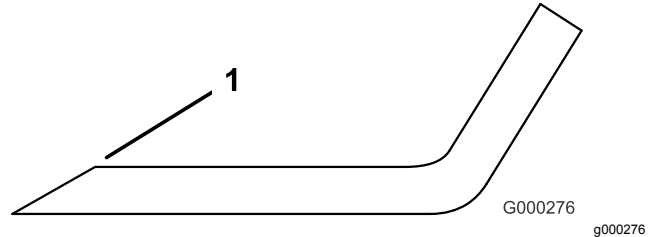

Figure 104
1. Use a file to sharpen the cutting edge at both ends of the blade (Figure 104).
Note: If the blade is not balanced, file some metal off the end of the sail area only (Figure 104).